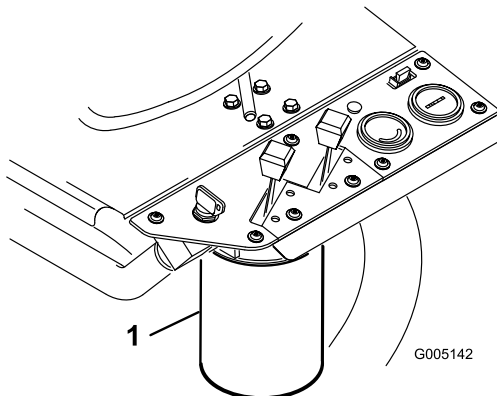

Figure 48
2. Clean the area around the filter mounting area (Figure 48). Place a drain pan under the filter and remove the filter.